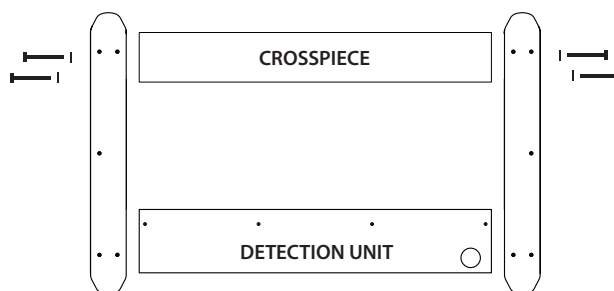

FIGURE 3-9
- Use the four remaining screws and washers to attach the crosspiece to the two panels. (See Figure 3-9.)